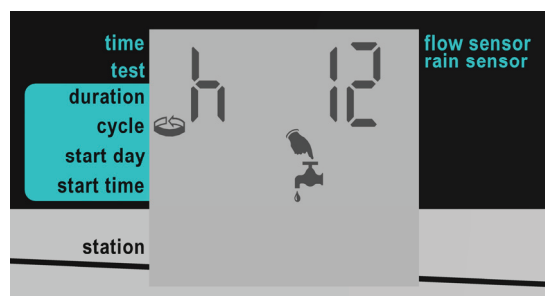

Figure 17: Twelve Hour Cycle Setting Example
1. Press **↵** until the Cycle screen appears (Figure 17).